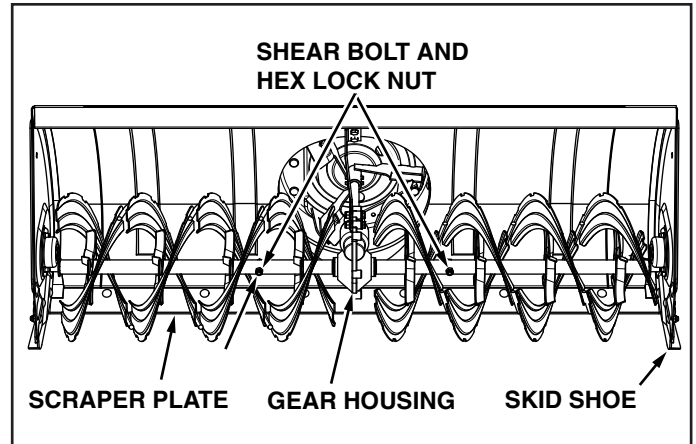

FIGURE 37
- If the augers will not turn, check to see if the shear bolts have sheared. See figure 37. Two replacement shear bolts and nylock nuts have been provided with the snow thrower. For future use order part number 42849 shear bolt and number 47810 nylock nut.